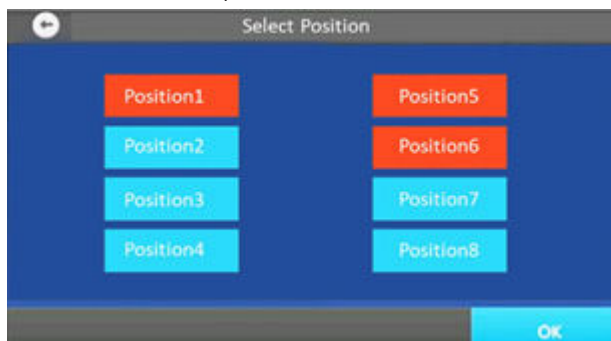

Figure 1: Select Position interface of the CleanXtract 96 with heated positions indicated in red.
2. Now the various positions on the CleanXtract 96 are shown, as indicated in figure 1.